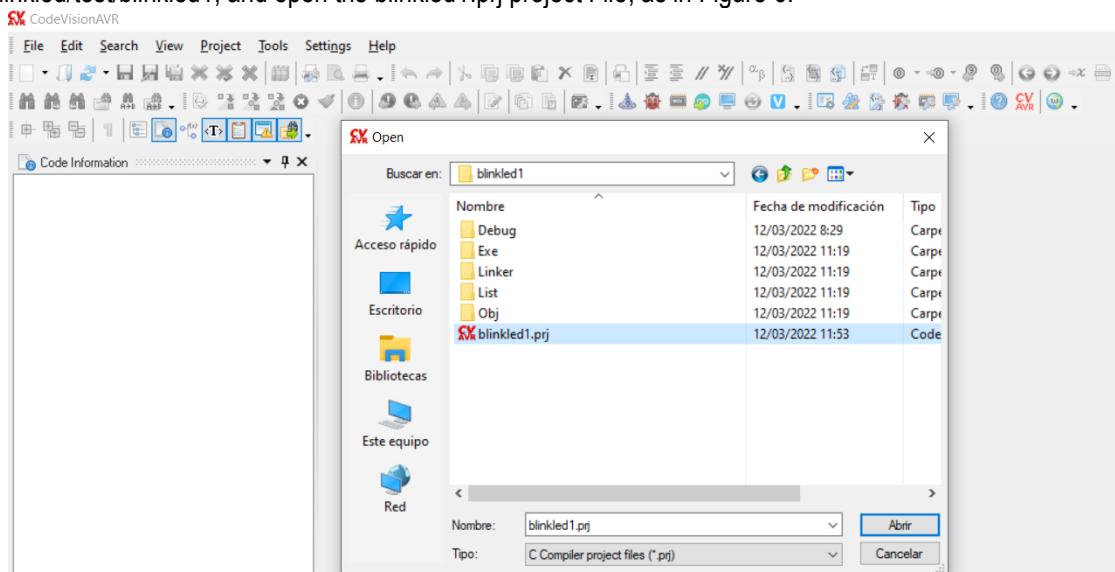

Figure 6 – CVAVR Opening Example 1 project
3.a.2 Using CodeVision AVR: Open the IDE and navigate in the downloaded repository on your local machine to /examples/blinkled/test/blinkled1, and open the blinkled1.prj project File, as in Figure 6.